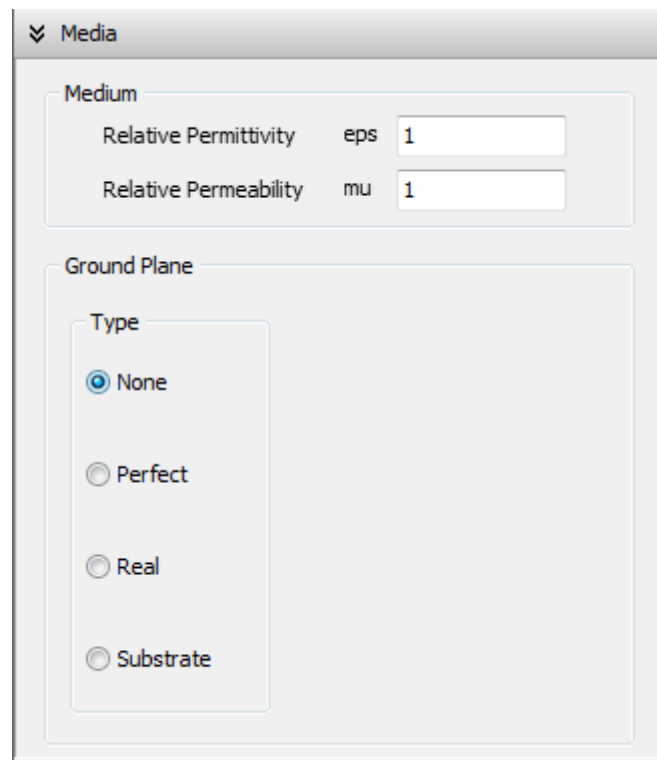

Fig. 10.5: None option in the Ground Plane box of the Media panel.
3. Choose the **None** option in the Ground Plane box, Fig. 10.5.